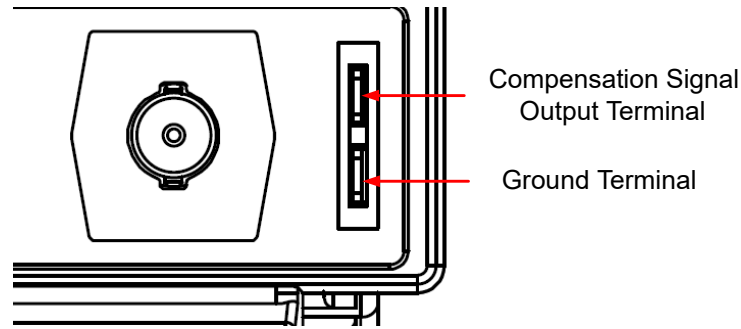

Figure 4.6 Using the Compensation Signal
2. Connect the ground alligator clip of the probe to the "Ground Terminal" as shown in *Figure 4.6*.
3. Use the probe to connect the input terminal of CH1 and the "Compensation Signal Output Terminal" of the probe, as shown in *Figure 4.6*.